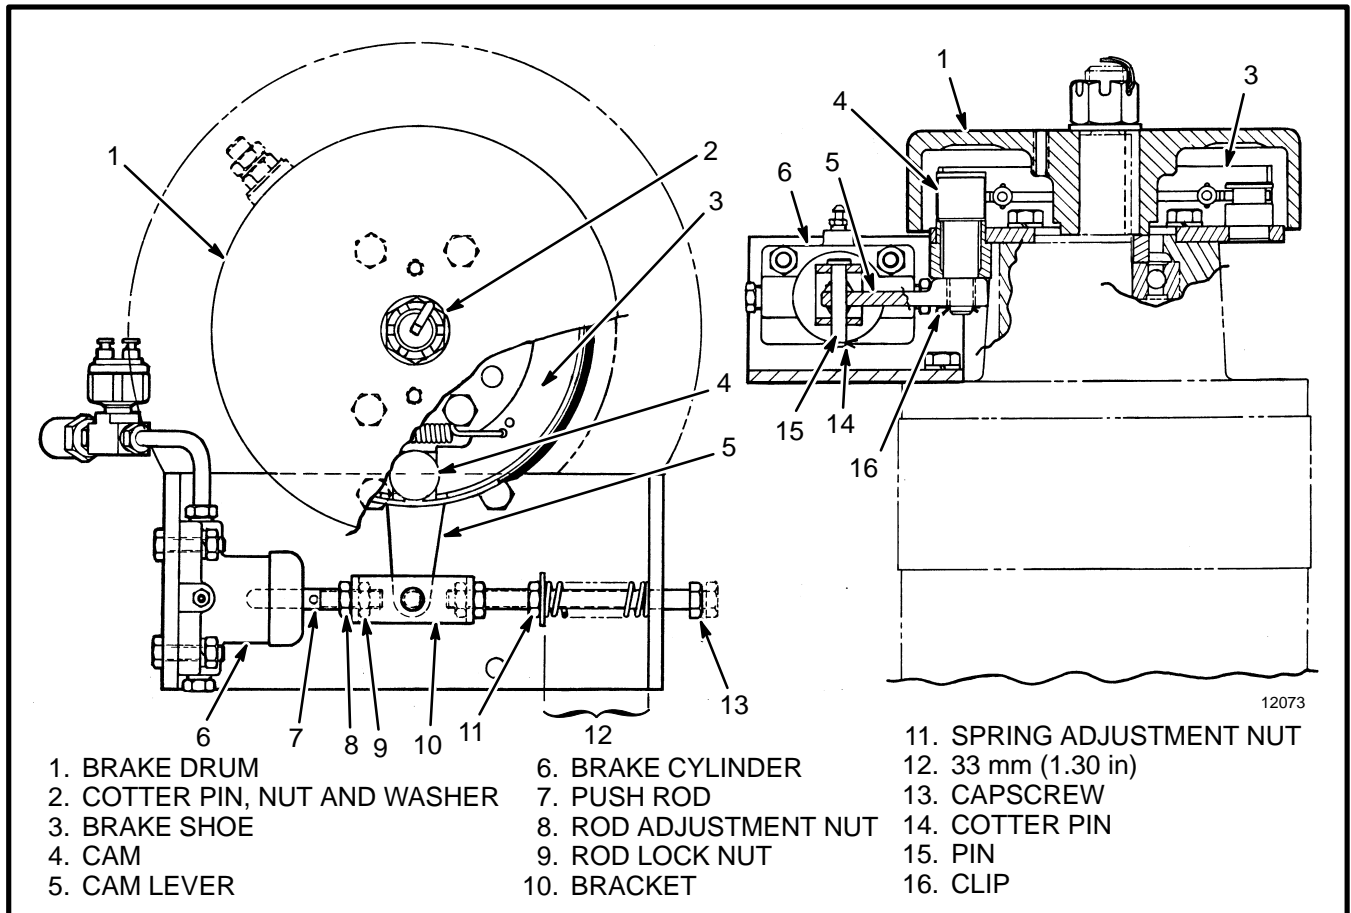

FIGURE 6. ADJUSTING BRAKE
### HOW TO ADJUST THE BRAKE (See FIGURE 6.)
FIGURE 6. The last position must be at the end of lever movement. The last position must also be as close as possible to 90 degrees as shown in FIGURE 6. Install a new clip to fasten the cam lever on the cam.
6. Make sure the brake pedal is released to the Up position. Make sure that there is no spacer at the head of the capscrew (item 13). Rotate the spring adjustment nut for the spring length shown in FIGURE 6.
7. Temporarily remove the boot from the brake cylinder and move it toward the bracket (item 10) on the push rod. Push the piston of the brake cylinder to make sure it is in the fully retracted position. Hold the push rod against the piston. Make sure the lock nut (item 9) does not prevent moving the push rod against the piston. Rotate the adjustment nut (item 8) for a clearance of 3.2 mm (0.125 in) between the adjustment nut and the bracket. Move the push rod so that the adjustment nut is against the bracket and tighten the lock nut as tight as possible using your fingers. Do not let the push rod or adjustment nut rotate. Use a pin in the hole of the push rod to prevent rotation and tighten the adjustment nut against the bracket using a wrench. This adjustment will make a clearance of 3.2 mm (0.125 in) between the end of the push rod and the brake cylinder.